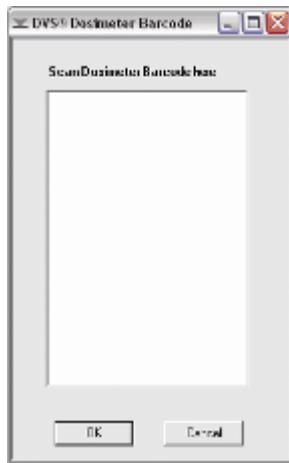

Figure 20 — Dosimeter Barcode
1. Click **Add Dosimeter**. A dialog box for entering the dosimeter's bar coded calibration values appears (Figure 20 — Dosimeter Barcode).